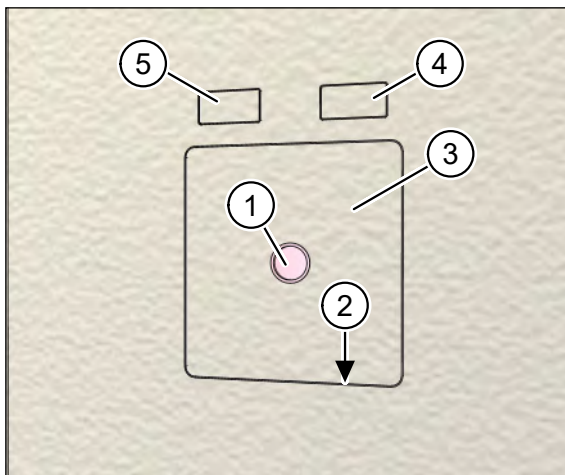

Fig. 34: Installation kit plastered on the inside
- ▶ Remove the signal cover (item 1 in Fig. 34).
- ▶ Use a blade to score the plaster on the inside of the plastering trim (item 2 in Fig. 34).
- ▶ Carefully remove the plaster cover (item 3 in Fig. 34) and the cardboard insert behind it.
- ▶ Remove the plaster covers over the supply air duct (item 4 in Fig. 34) and / or extract air duct (item 5 in Fig. 34).